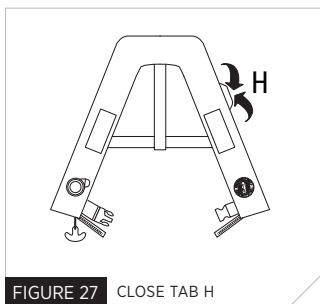

FIGURE 27 CLOSE TAB H
7. Fasten the Velcro™ tab (H) (Fig. 27) to keep zipper closed.